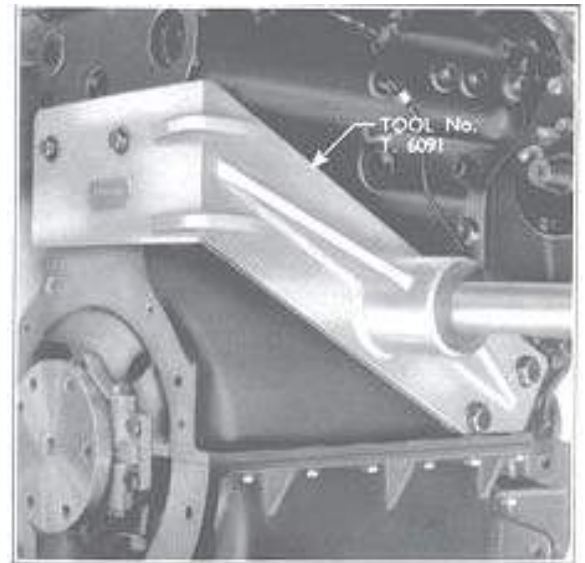

Fig. 28
7. Bolt the engine stand bracket (Tool No. T.6091) to the engine in the position shown on Fig. 28. The engine and bracket can then be positioned on the engine stand (Tool No. 200 or 35) in the normal manner.